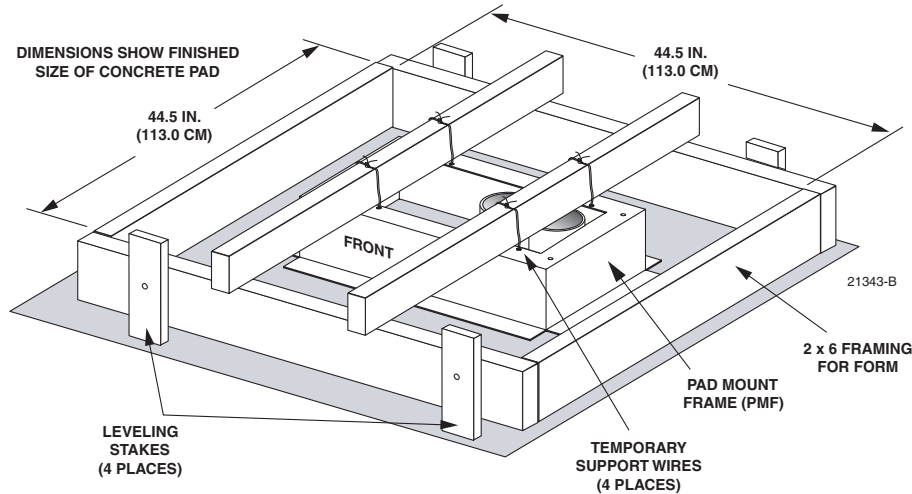

Figure 13. Concrete Pad Framing
► **Note:** Use temporary top framing to keep the top surface of the PMF flush and level with the top of the concrete pad (see Figure 13).